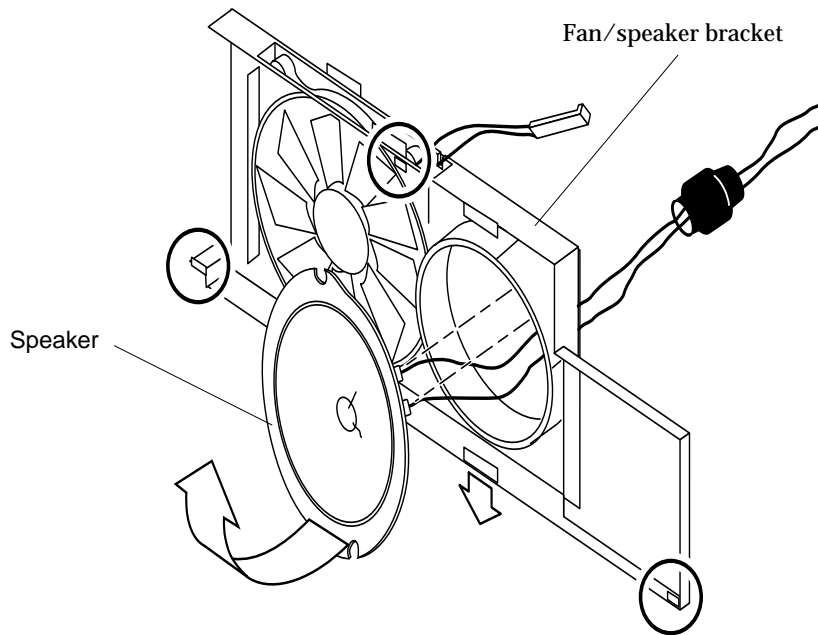

FIGURE 8-9 Removing the Speaker from the Fan/Speaker Bracket
- 5. Release the bottom portion of the speaker from the bracket and remove the speaker (FIGURE 8-9).**